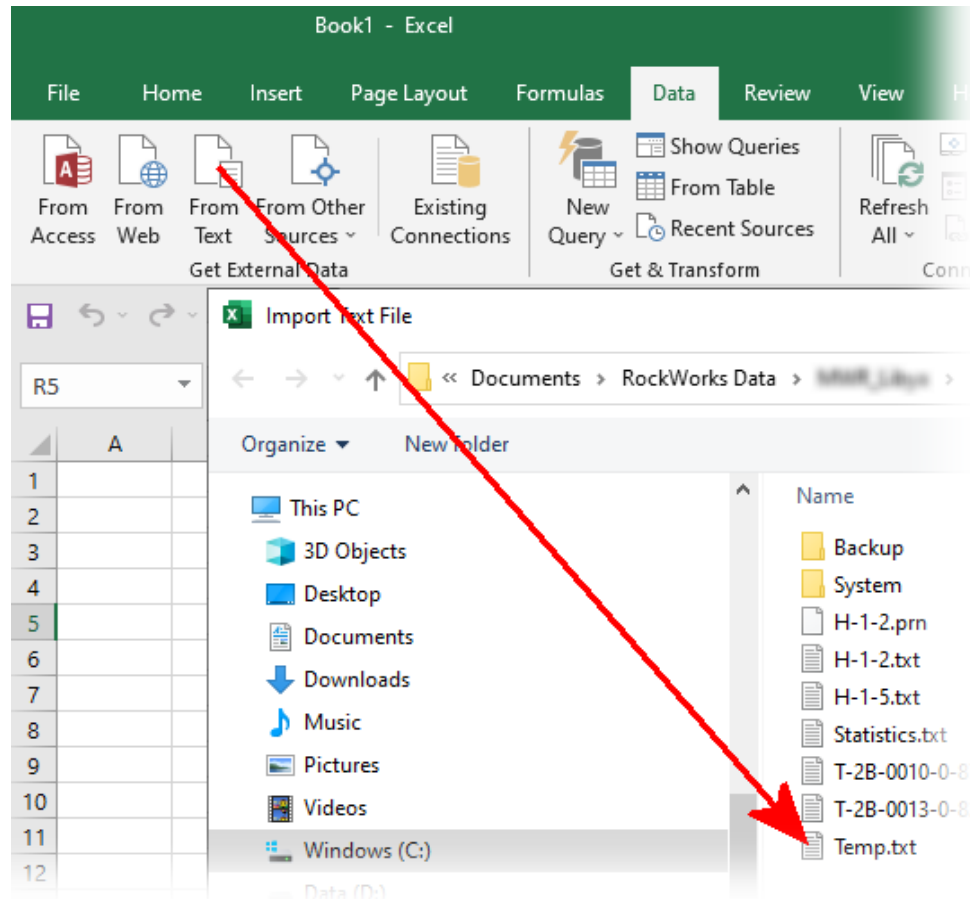

Figure 2
- Open Excel, select the first cell in the first column, and select the *Data / Get External Data / From Text* tool to load the Temp.txt file (Figure 2).